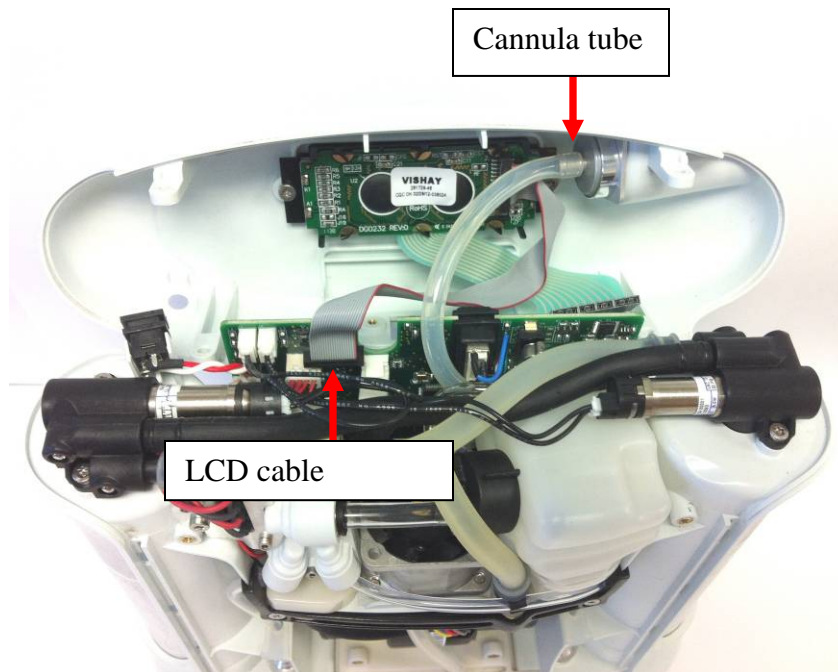

Figure 8: Remove cannula tube and LCD cable
8. Gently unplug the cannula tube from the user interface panel and the LCD cable from the motherboard (Figure 8) and set the user interface panel aside.
1. To re-install the user interface panel, plug the LCD cable back into the motherboard (Figure 8). *Note orientation of red wire.* Re-attach the cannula tubing to the cannula connector.